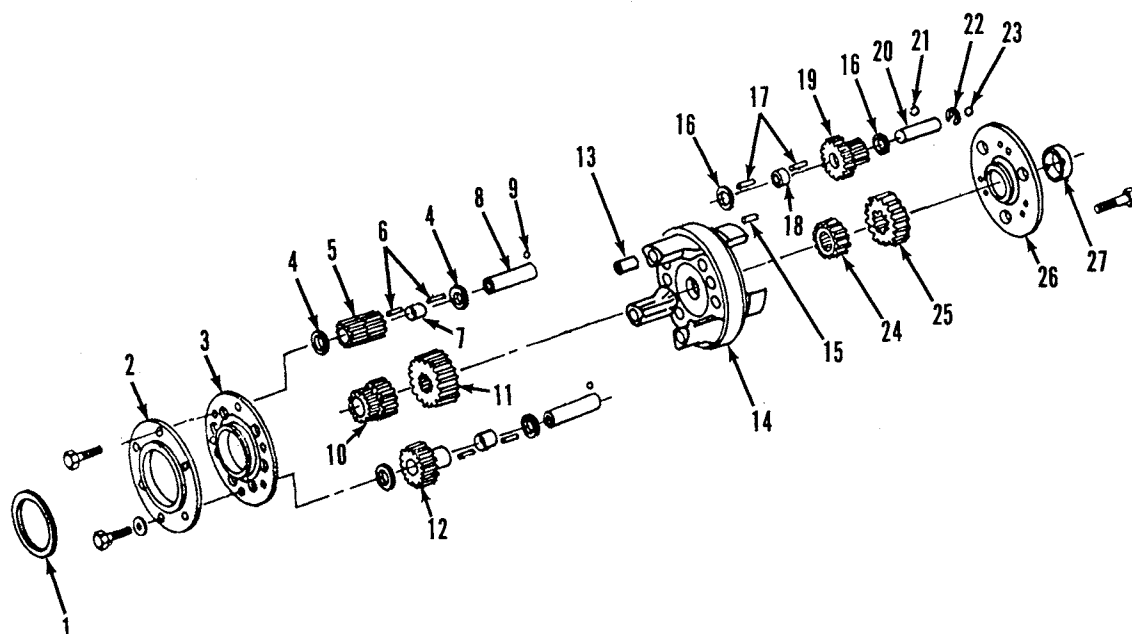
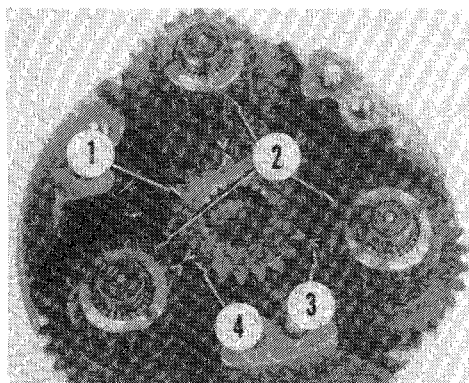

Fig. 176—Exploded view of output planetary carrier used on 4050 and 4250 Power Shift models.
Fig. 176A—When installing B2 sun gear (1), make certain “V” marks (4) on sun gear are aligned with “V” marks (3) on planet pinions (2).
148. PLANETARY CARRIER (4050 AND 4250). Remove cap screws securing planet pinion shaft retainer (2—Fig. 176), then remove retainer and rear cover (3) from carrier. Remove thrust washers, B3 planet pinions (5), B4 planet pinions (12), bearings (6) and spacers (7) from pinion shafts. Withdraw planet sun gears (10 and 11). Remove front cover (26) cap screws, then pry cover from carrier. Remove thrust washers, B1 planet sun pinion (25), B2 planet sun pinion (24), B1 and B2 planet pinions (19), bearings (17) and spacers (18). If B3 and B4 pinion shafts (8) are to be renewed, drive shafts out toward rear of carrier. If B1 and B2 planet shafts (20) are to be renewed, drive shafts out toward front of carrier. Note retaining balls (9 and 21) at bottom of each shaft.
To reassemble planetary, reverse the disassembly procedure while noting the following special instructions: When installing B2 planet sun gear (1—Fig. 176A), align timing marks (4) on sun gear with timing marks (3) on B1 and B2 planet pinions (2). Install B1 planet sun gear (25—Fig. 176) so recessed side of gear is facing up. Tighten front cover (26) mounting cap screws to 35 ft.-lbs. (47 N·m). Install B3 planet sun gear (11) with thrust washer side facing carrier. Tighten carrier rear cover (3) mounting screws to 20 ft.-lbs. (27 N·m). Tighten cap screws securing retainer (2) to cover to 10 ft.-lbs. (14 N·m).